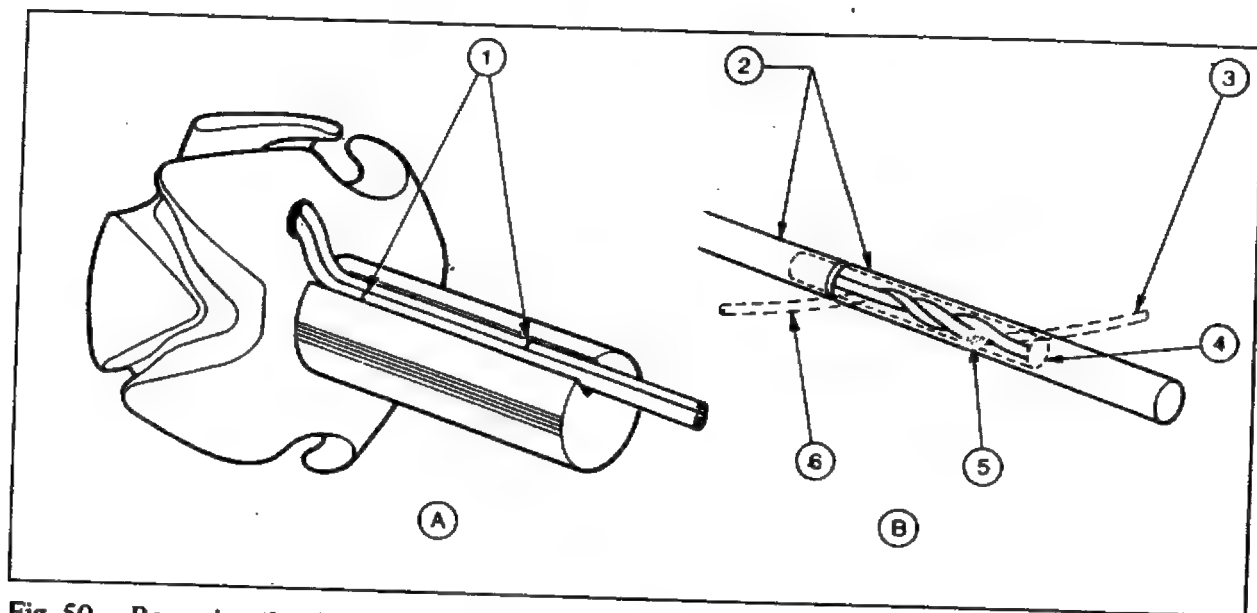

Fig. 50 – Renewing the slip ring connecting leads.
Cut the leads so that the subsequent joints are staggered as shown in Fig. 50 (A). Trim back the glass-fibre sleeving and lightly twist a new length of Lumex copper wire (21.5 swg for 12 volt alternator; 23.5 swg for 24 volt alternator) to the existing wire and solder together. Snip off excess wire. Apply a liberal coating of shellac and slide a short length of 2 mm. glass-fibre sleeving over the join so that it slides inside the existing sleeve, Fig. 50 (B). Apply a further coating of shellac and slide on a new length of 3 mm. glass-fibre sleeving to abutt the original sleeve. Apply a final coat of shellac to the outside.